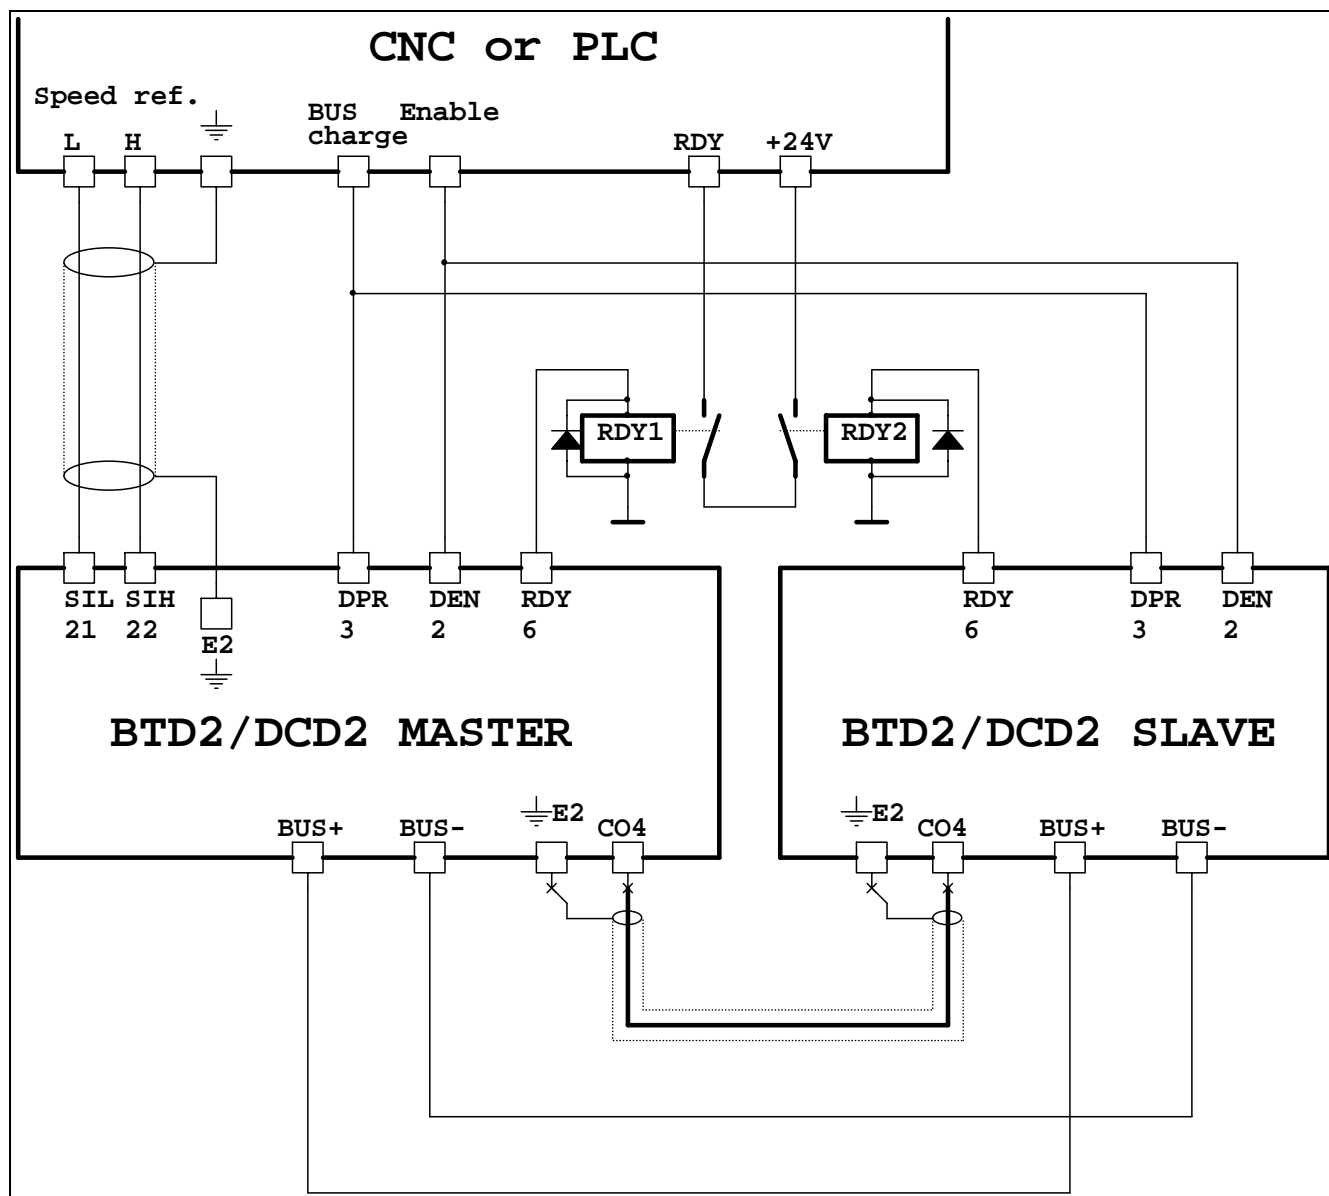

Figure 17
The following draft of connection is an integration of the Figure 14 on page 34 or of the Figure 15 on page 35. Therefore it will need to effect the suitable connections in the Figure 14 or in the Figure 15 as it regards the connections "standard" (motor, transducer of speed, supply, commands, options); it will need to follow the indications of the Figure 17 as it regards the realization of this special function.
The two converters (Master and Slave) they must be seen from the unity of command (CNC or PLC) as an only unity, so that if one of the two converters goes to alarm, also the other one has to stay. For this motive the digital outputs "Ready" some two converters are connected as suitable in the Figure 17; if a PLC is used, it is possible not to use the two suitable relays as "RDY1" and "RDY2" in figure, but to directly connect the two digital outputs to the digital inputs of the PLC and to realize the equivalent circuit (that is the series of the open contacts) inside the software.
4. To perform the connection among the converters as described in the Figure 17.
5. To give the commands of "charge bus" (DPR) and "enabling" (DEN) contemporarily to both the converters, as represented in the Figure 17.
6. To realize with logic hardware (relay) or software (program PLC), the series of the outputs "ready" (RDY) of the converters so that if two one goes to alarm, you also provoke the stop some other, as represented in the Figure 17.